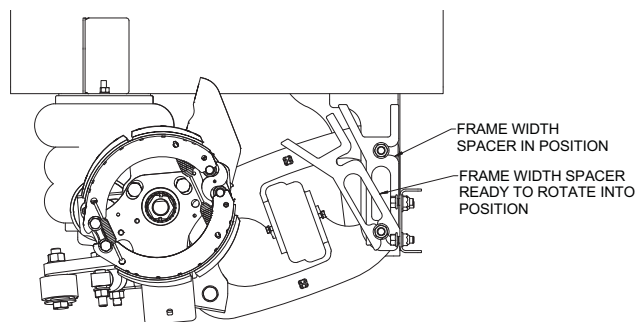

Figure 4 - Frame width spacer
3. If a 33.5 inch frame width is needed, loosen but do not remove the four pivot bolts connecting the hanger to the bushing saddle. Next, loosen the four bolts connecting the cross member to the hangers. Remove the frame width spacer on both sides of the suspension. Retorque the pivot bolts and cross member bolts. See torque values below. (See figure 4 for frame width spacer reference)